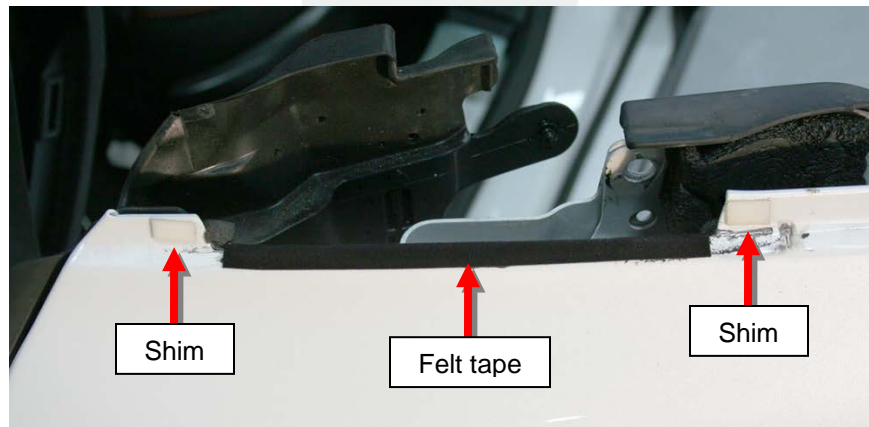

Figure 14
6. Apply felt tape to the mirror area of the door panel, if it is not already installed (Figure 14).
7. Add 2 shims to the mirror area of the door panel, if they are not already installed (Figure 14).